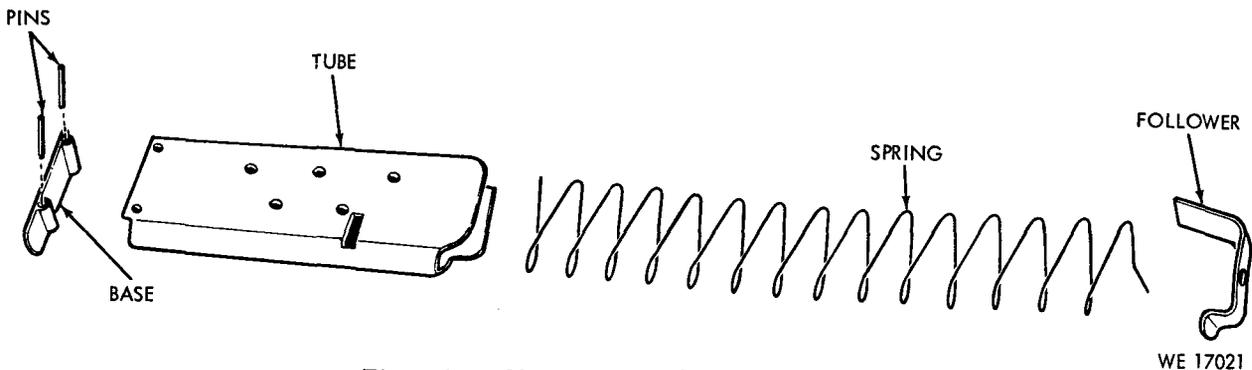

Figure 3-9. Magazine assembly—exploded view.
(1) Operator's repairs to the weapon will be limited to replacement of the magazine. The magazine can be disassembled in accordance with figure 3-9 for cleaning purposes.